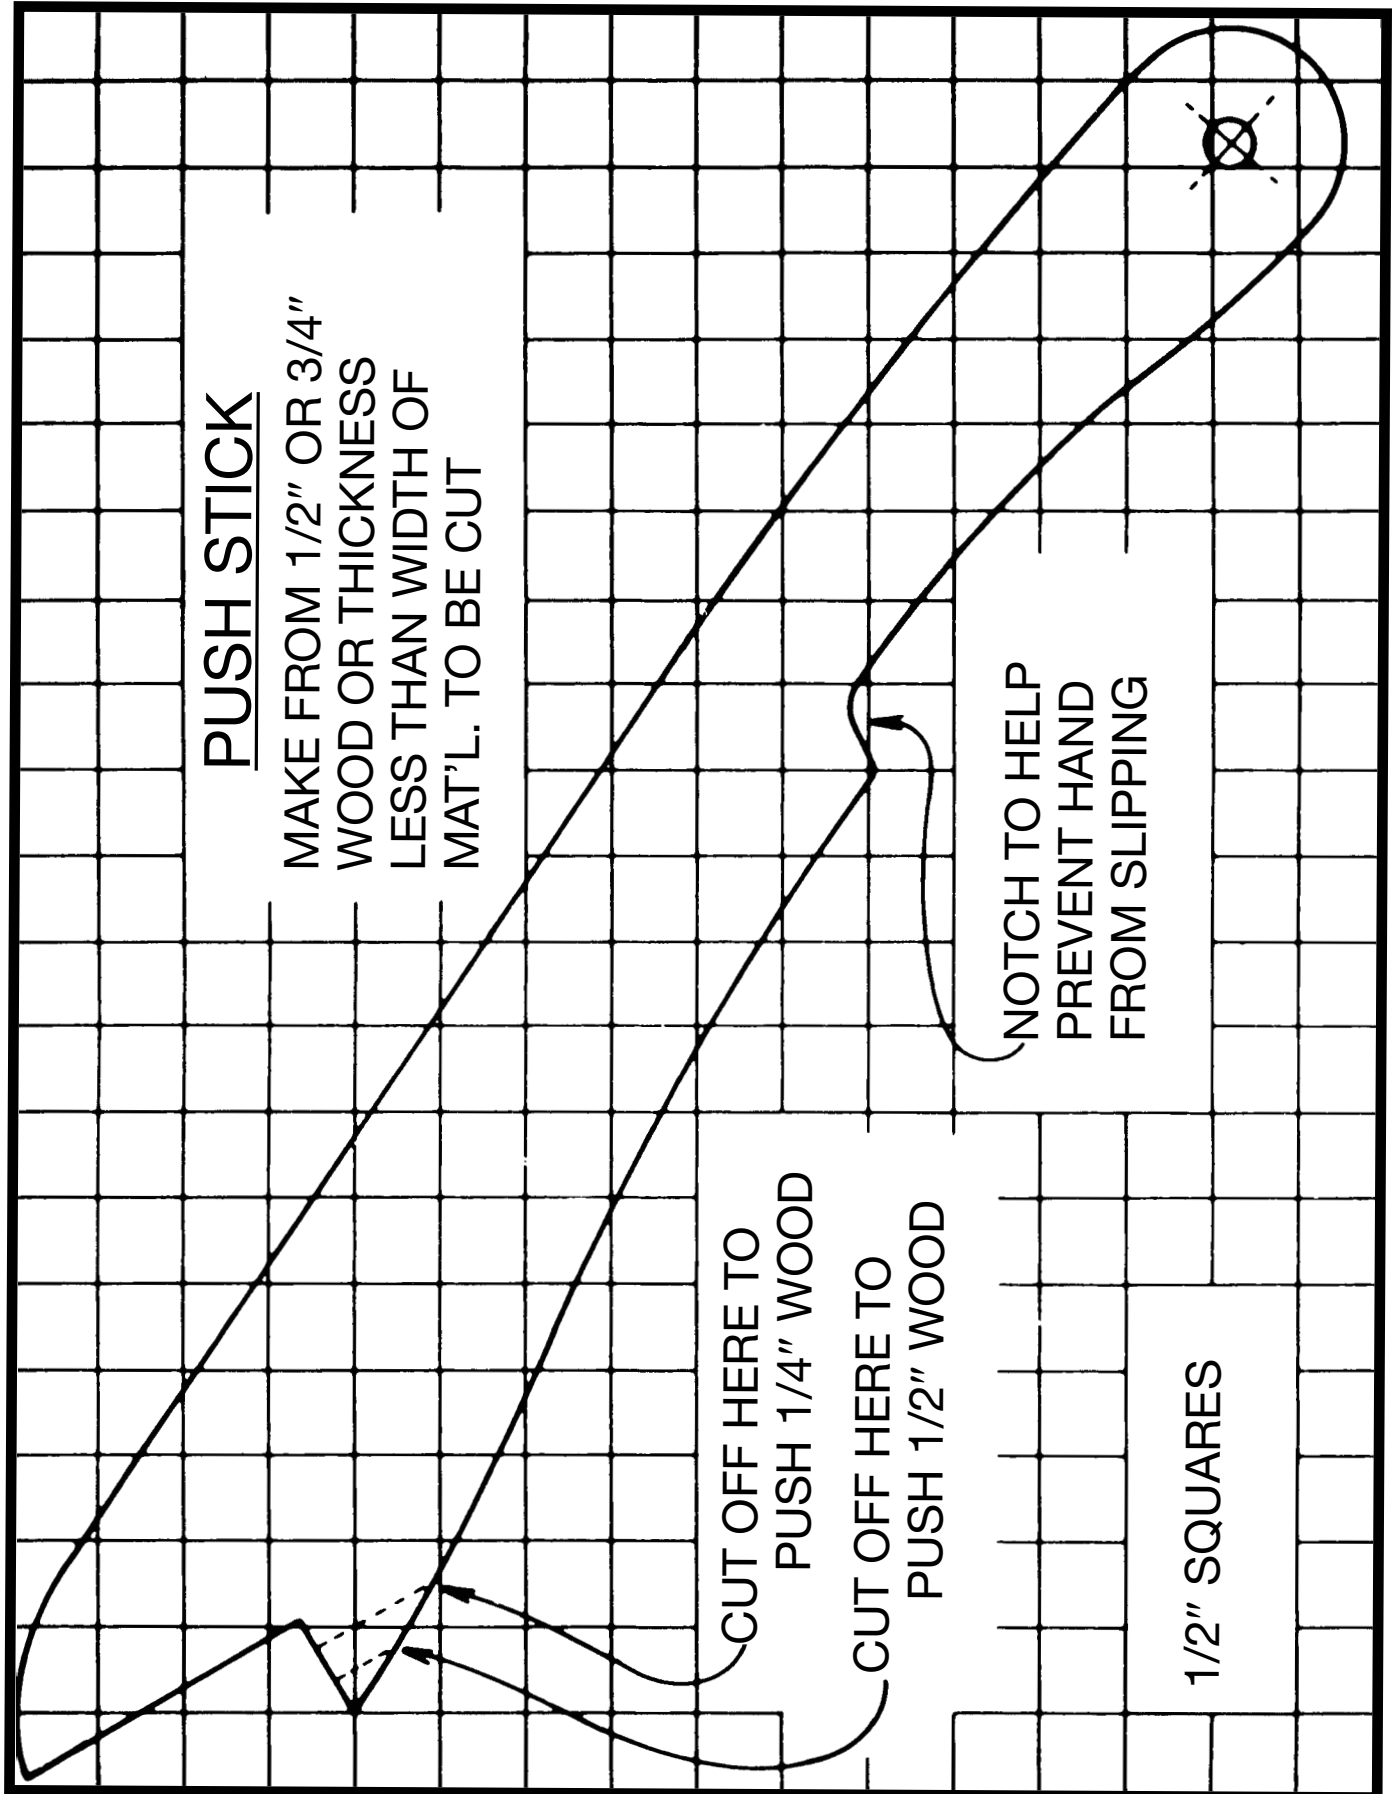

Fig. 58
Ripping involves making a lengthwise cut through a board along the grain. When ripping, the track arm is clamped at “0” on the miter scale. The yoke is then positioned and clamped so that the blade is parallel to the fence. When feeding the material, one edge rides against the fence while the flat side of the board rests on the table. The guard should be lowered on the in-feed side until it almost touches the workpiece, as shown in Figs. 56 and 57, to act as a holddown. The splitter and anti-kickback fingers (A) Fig. 56, should be adjusted as described under the section “**ADJUSTING SPLITTER AND ANTI-KICKBACK FINGERS**” in this manual. The operators hands should always be well away from and to the side of the blade. When ripping narrow work, always use a push stick as shown in Fig. 58, to push the work between the fence and blade. The workpiece must have one straight edge to follow the fence. If board is bowed, place hollow side down. The cutting-head clamp knob should be securely tightened for all ripping operations.
⚠ WARNING: WHEN RIPPING WORK LESS THAN FOUR INCHES WIDE, A PUSH STICK SHOULD BE USED TO COMPLETE THE FEED (SEE FIG. 58)
When ripping work less than 4 inches wide, a push stick should be used to complete the feed and could easily be made from scrap material by following the pattern shown in Fig. 58.